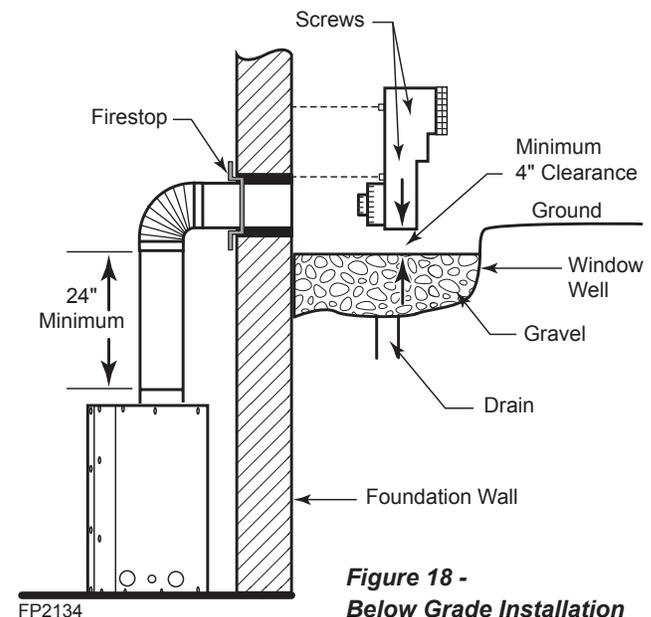

Figure 18 - Below Grade Installation
- The maximum number of elbow degrees in a system is 270°. *Figure 18*
2. Remove soil to a depth of approximately 16" below base of snorkel. Install drain pipe. Install window well (not supplied). Refill hole with 12" of coarse gravel leaving a clearance of approximately 4" below snorkel. *Figure 18*
7. Level the soil so as to maintain a 4" clearance below snorkel. *Figure 18*